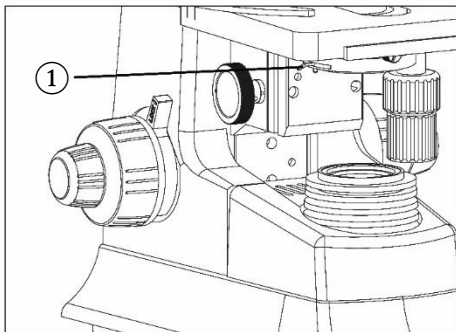

Fig. 25
4.2.6. Aperture Iris Diaphragm Adjustment (Fig. 25)